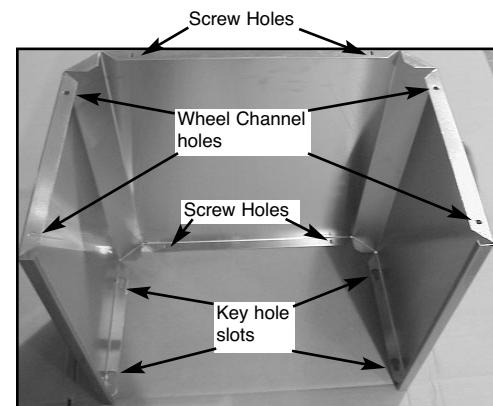

Fig. 1
1. Set 3 sided pedestal upside down. Set the base on the top of the cart assembly aligning the four wheel channel holes and 2 screw holes . Then set the 2 wheel channels on the base and attach them using the (4) bolts provided, from inside the cart upwards through wheel channels. (See Fig. 1 & 2)